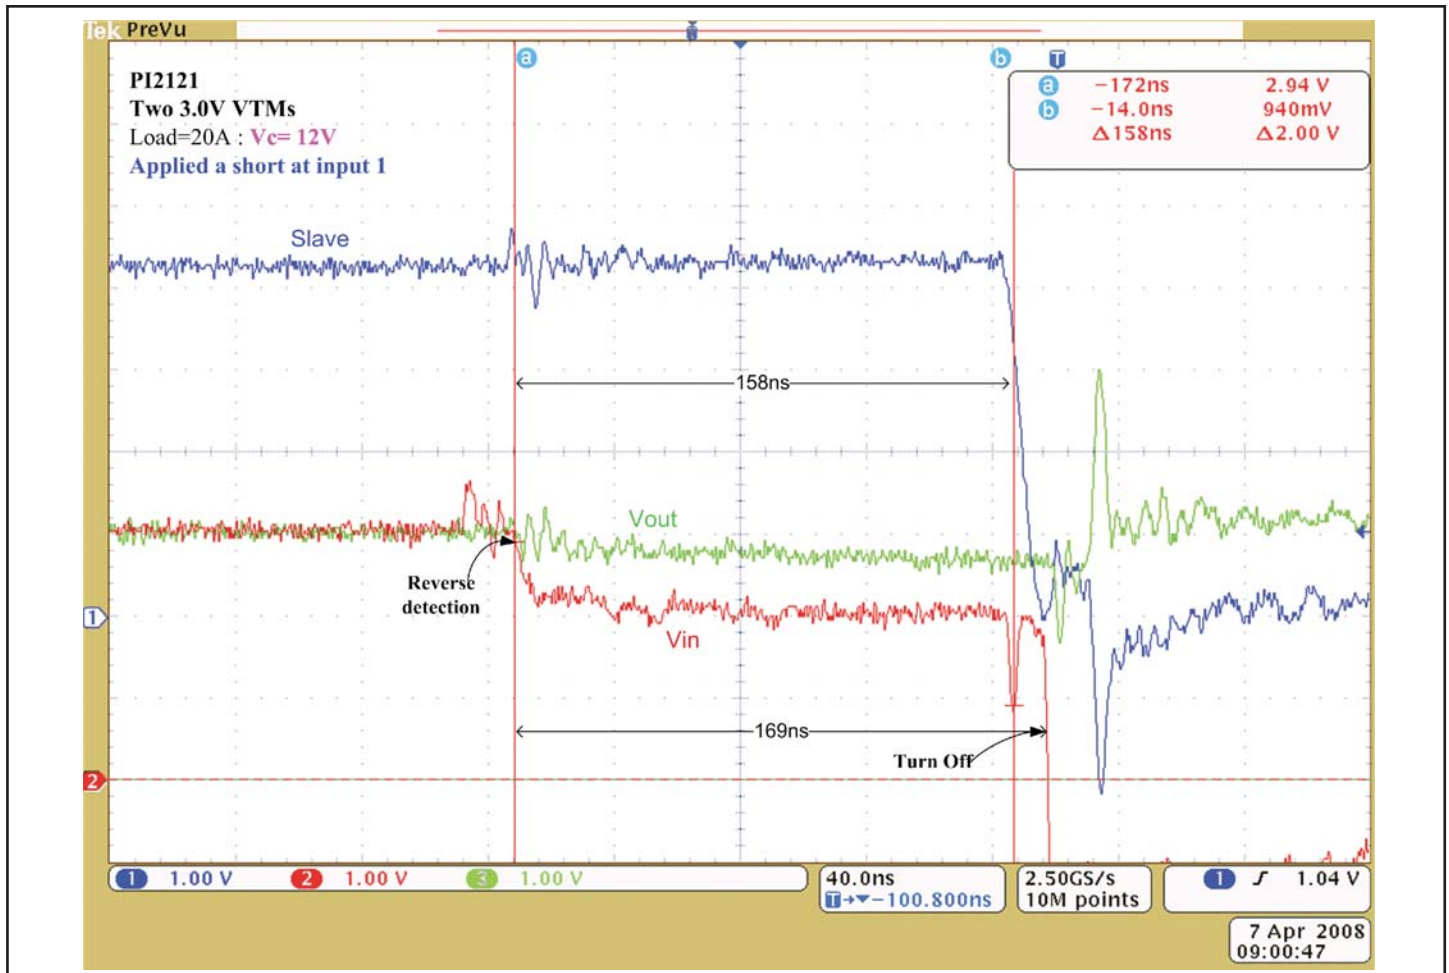

Figure 6 – Plot of PI2121 response time to reverse current detection
- 7.3 Apply a short at one of the inputs (Vin1 or Vin2) when the evaluation board is configured with both SiP's (SiP1 and SiP2) in master mode. The short can be applied electronically using a MOSFET connected between Vin and Gnd or simply by connecting Vin to Gnd. Then measure the response time between when the short is applied and the SiP internal MOSFET is disconnected (or turned off). An example for PI2121 response time to an input short circuit is shown in Figure 6.